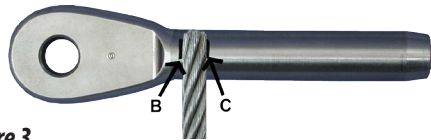

Figure 3
Place the cable next to the mark (B) and mark the shank at point (C) as shown in Figure 3.